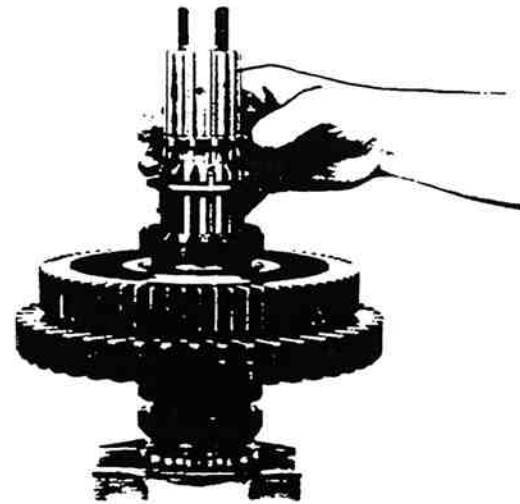

Figure 13-131. Installing Spacer.
17. Install spacer against flat side of 3rd speed gear washer (figure 13-131).